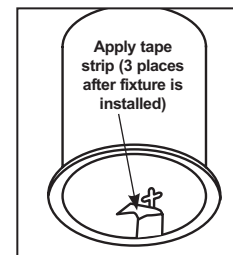

Figure 6
Step 6. Apply tape strips over each of the three retention clips and slots. Cover completely with the tape strips. Use the supplied strips, do not substitute with duct tape (Fig. 6).